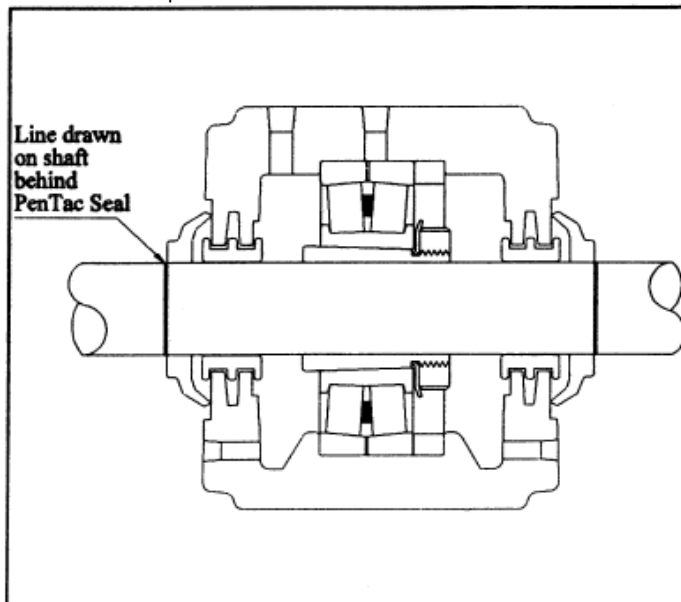

Figure 6: Complete assembly of D-5 PenTac showing reference line drawn on the shaft.
6. Use a marker and mark the shaft right behind the heel of the seal. Refer to figure 6.